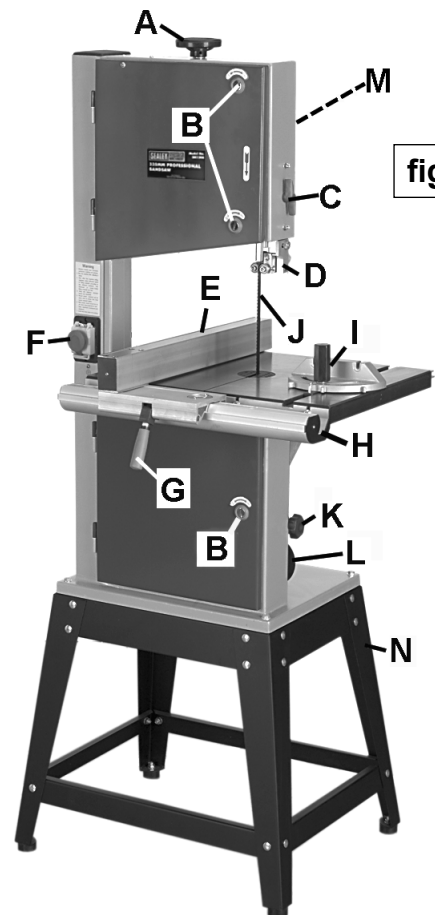

fig.1
- 3.1.1. Assemble stand as shown in fig.1.N. Ensure all fittings are tight.
- 3.2.4. Fit the fence, first align bearing at the far end with one of the table slots, then lower onto table side guide. Push down handle (fig.1.G) to lock when fence is in required position.
- 4.1.1. Turn the blade cover locks (fig.1.B) anticlockwise to open the upper and lower covers.
- 4.1.2. Turn blade tension adjustment knob anticlockwise (fig.1.A) to slacken the blade.
- 4.2.2. Turn the blade tension knob (fig.1.A) to adjust the blade tension - clockwise to tighten, anticlockwise to slacken. Correct tension is reached when the blade gives slightly to firm finger pressure at mid-span. Do not over-tighten.
- 4.4.1. The upper blade guide should always be adjusted to about 3mm above the workpiece. To adjust, loosen the locking knob (fig.1.C) and lower the assembly to the required position (SM1306 also has a lowering wheel). Tighten locking knob.
- 4.7.2. To adjust belt tension turn drive belt tensioner knob (fig.1.K) until correct tension is achieved. Close and lock cover.
- 4.8.1. Open lower blade cover and remove all belt tension by turning belt tensioner knob anticlockwise (fig.1.K).
- 4.8.3. Tension belt correctly (see 4.7.) by turning drive belt tensioner knob (fig.1.K) and close and lock cover.
- 4.9.1. The mitre gauge (fig.1.I), which can be located in either of the two table slots, is adjustable through 45° in either direction. Loosen the central locking knob, adjust and then tighten locking knob.
4.11.1. The fence (fig.1.E) is mounted on the table side guide (fig.1.H).
4.11.2. To reposition or remove the fence, push up locking handle (fig.1.G). To refit the fence, first align bearing at it's far end with one of the table slots, then lower onto table side guide. Push down handle (fig.1.G) to lock when fence is in required position.